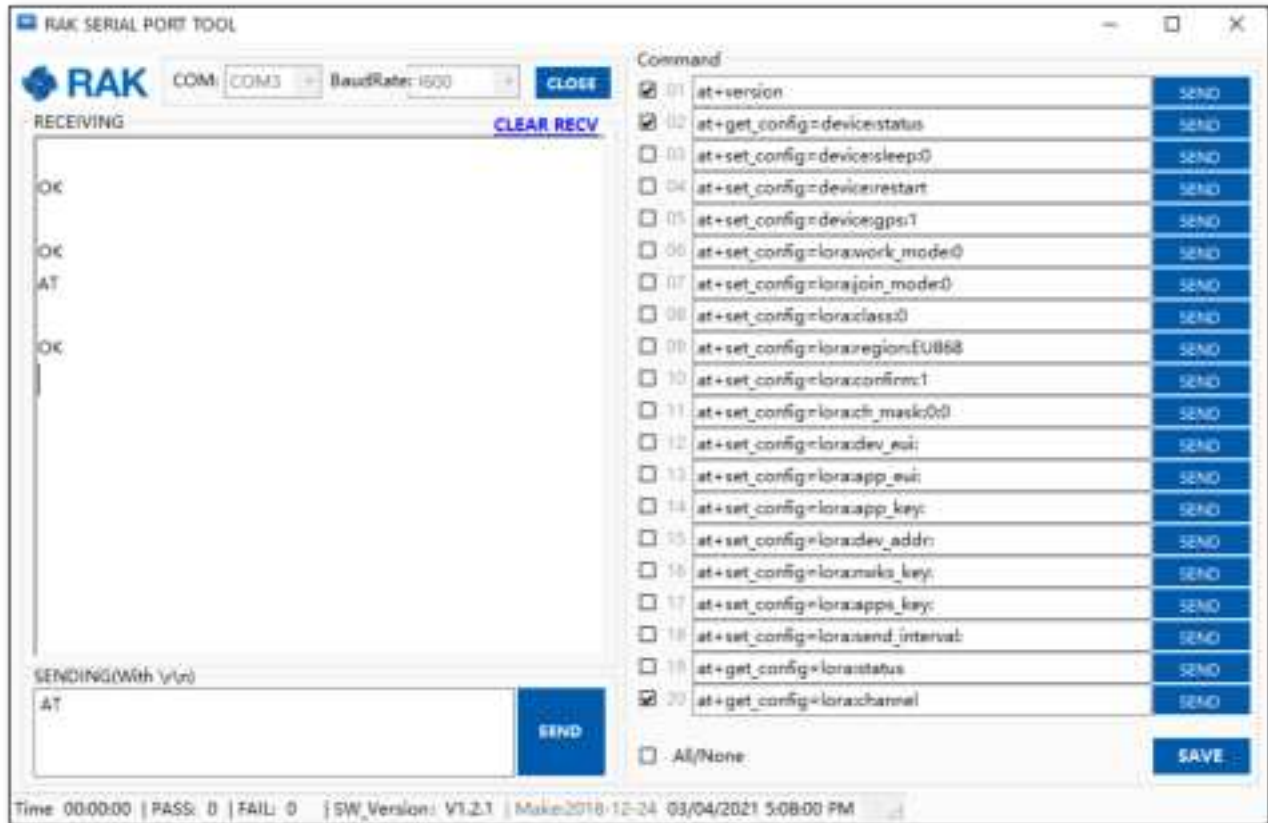

Figure 81: at+version command response
1. During the registration of a new device, if you select “**DeviceProfile_ABP**”, as shown in **Figure 81**, then the ChirpStack platform will assume that this device will join the LoRaWAN network using the ABP mode.